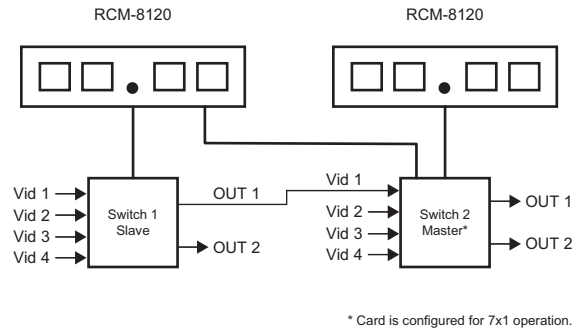
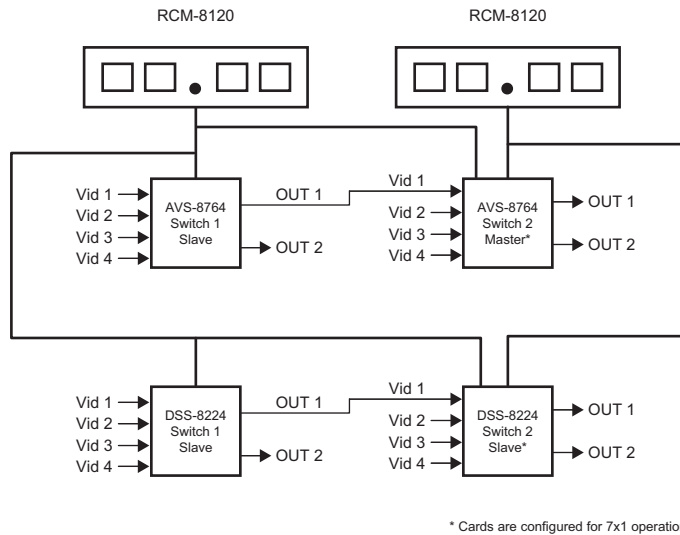

Figure 4.3 Example of Signal Flow with 7x1 Operation — Two AVS-8764
Figure 4.4 Example of Signal Flow with 7x1 Operation — Two AVS-8764 and Two DSS-8224
- for diagrams illustrating possible 7x1 configurations, refer to **Figure 4.3** and **Figure 4.4**.
Figure 4.3 displays a 7x1 configuration where two AVS-8764 cards are used. You must have two AVS-8764 cards with one configured as the Master. The Master card must be enabled for 7x1 operation.
Figure 4.4 displays a 7x1 configuration where two AVS-8764 cards and two DSS-8224 cards are used. Note that you must have one AVS-8764 card configured as the Master. This Master card must be enabled for 7x1 operation. One of the DSS-8224 cards must also be enabled for 7x1 operation.